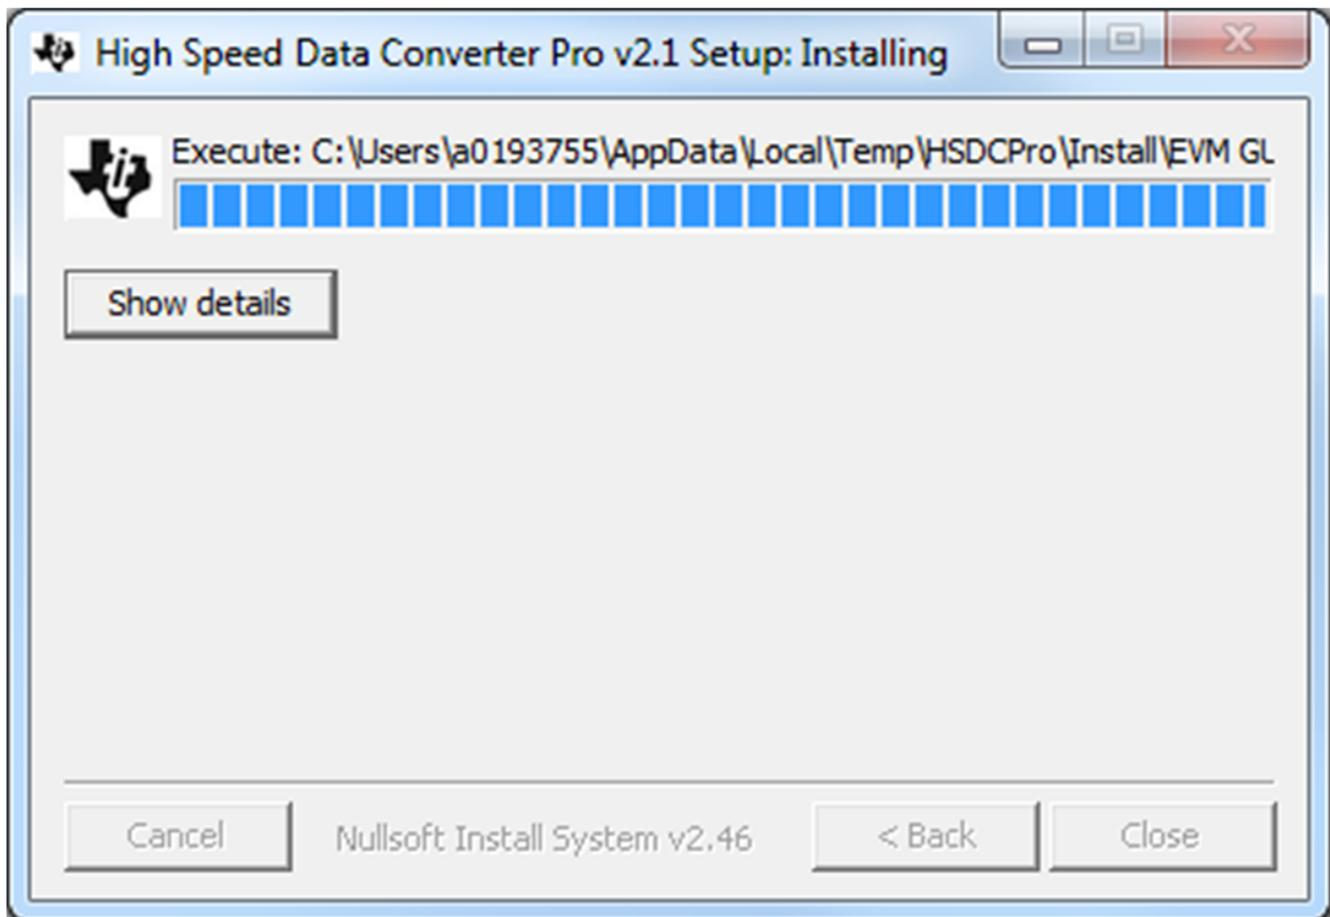

Figure 30. HSDCPro Install (h)
- The window shown in Figure 30 appears briefly to complete the process.